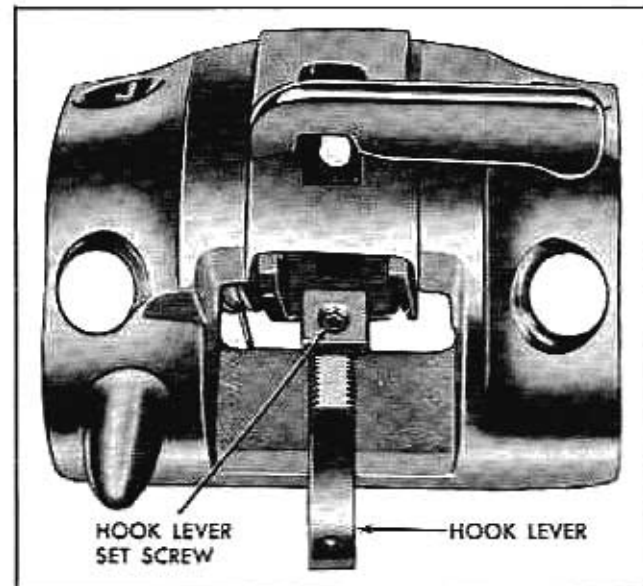

Fig. 7-19 Front Roof Rail Lock Assembly
1. Loosen hook lever set screw (Fig. 7-19).